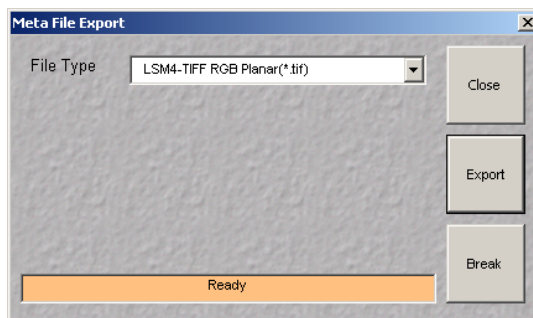
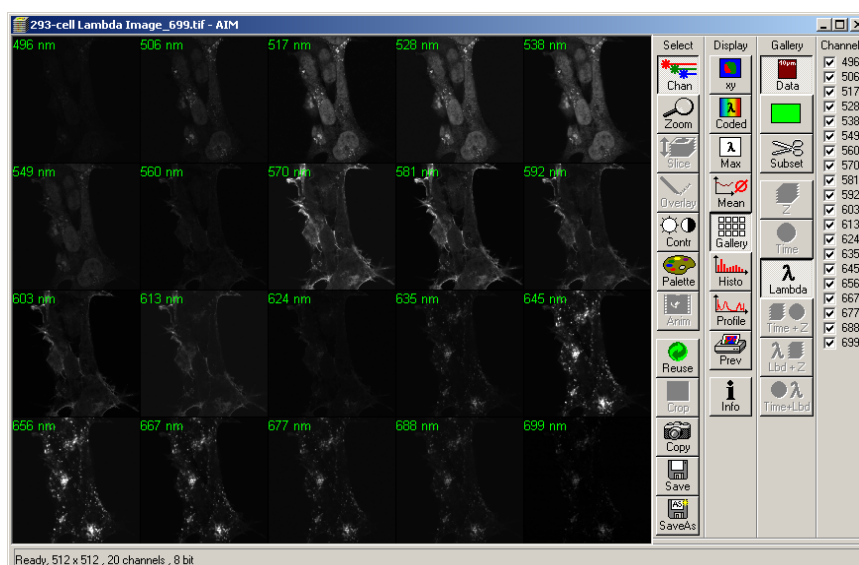

Fig. 9.1 Meta File Export macro window
Fig. 9.2 Gallery of lambda stack images (each WL indicated in the upper right image corner)
- Start **Meta Export** macro (Fig. 9.1) and load or activate lambda stack image window (Fig.9.2).
- Define the format of the images for export from the **File Type** drop down list (Fig. 9.1).